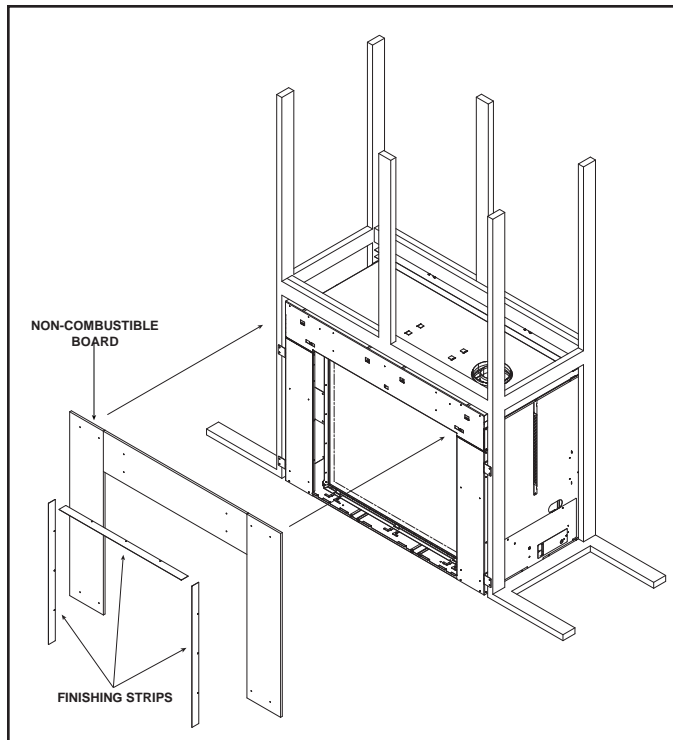

Figure 9.7 Attaching Non-Combustible Board
4. Six sheet metal finishing strips are included with the appliance. The shipping location of the finishing strips is shown in Figure 9.3. Remove 1/4 in. screws that attach the strips to the appliance. Strips may be used during the final finishing steps of appliance setup. See Figure 9.7. Strips should be removed when finishing is completed.
Attach the non-combustible board to the appliance and wall framing with the screws supplied in the manual bag assembly. See Figure 9.7